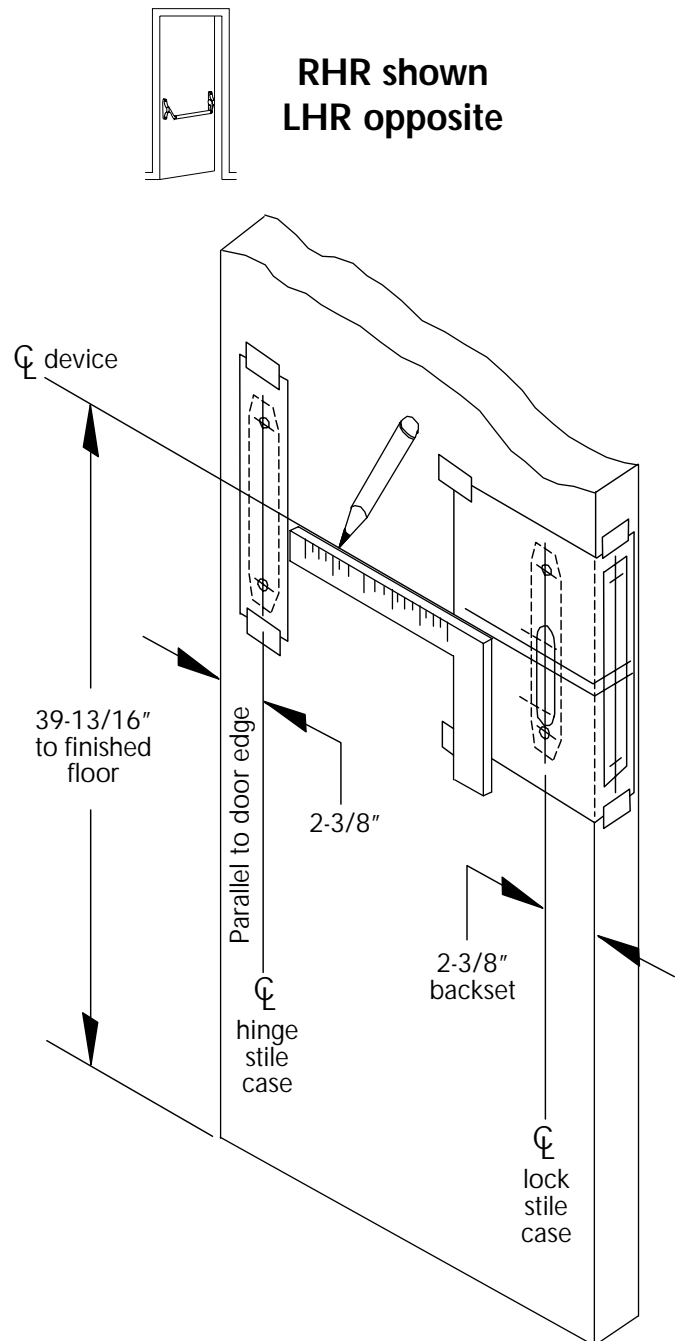

Figure 1
3. Tape full size RHR or LHR lock stile case and hinge stile case templates to inside face of door (Figure 1). Be sure center line of device is 39-13/16" from finished floor. Prepare inside face of door for device per templates.